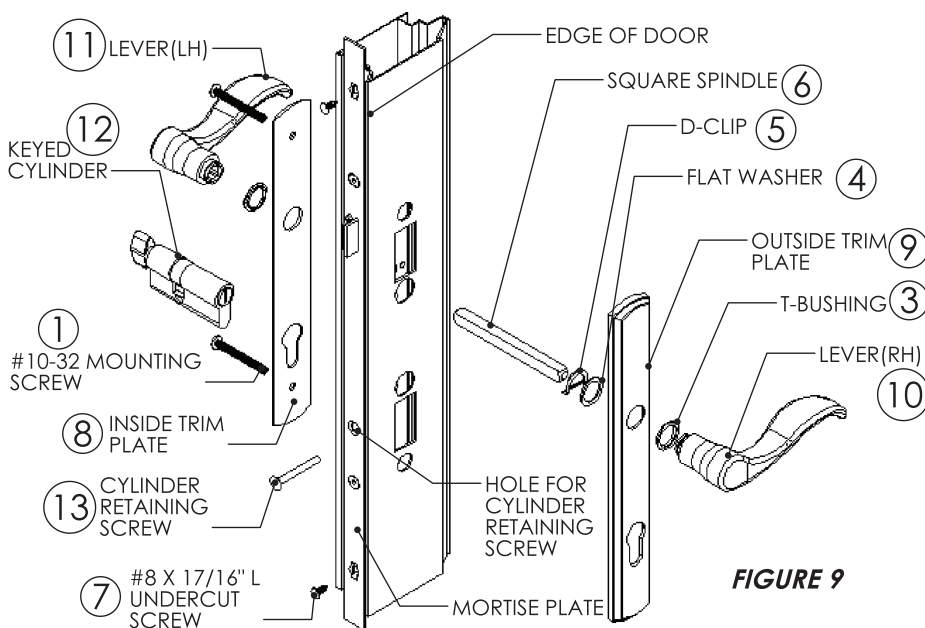

FIGURE 9
- Insert the spindle(6) all the way into the outside handle. Tighten the set screw in the handle with the hex wrench.
- On the outside of the door install the outside assembly, making sure that the lever handle is facing in the correct direction, (see figure 9).
- On the inside of the door, position the inside handle, with T-bushing (3), through the inside trim plate (8) (polished surface facing out) over the square spindle, making sure that the inside lever is facing in the correct direction, (see figure 9).
- Align trim plates and finger-tighten the 2 #10-32 phillips pan head screws (1), through the top and bottom holes on the inside trim plate, (see figure 9).
- From the interior of the door, insert the key cylinder (12), through the hole in the lock body. Insure the thumb knob is on the interior side of the door. Insert the cylinder retaining screw(13), through the hole in the mortise plate and into the threaded hole in the key cylinder, and tighten, (see figure 9).
- Tighten the 2 #10-32 phillips pan head screws (1). **CAUTION: DO NOT OVERTIGHTEN AS DOOR WALLS MAY BEND.**